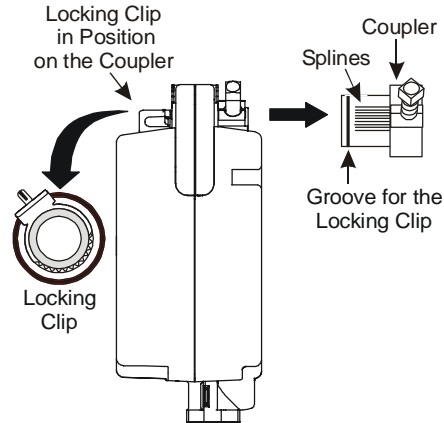

Figure 4: Changing the Position of the Coupler
To change the position of the coupler, see Figure 4 and proceed as follows:
Note: The coupler teeth illustrated in Figure 4 are designed to prevent insertion of the coupler in the wrong angular position.
- Pull the locking clip off the coupler as illustrated in Figure 4.